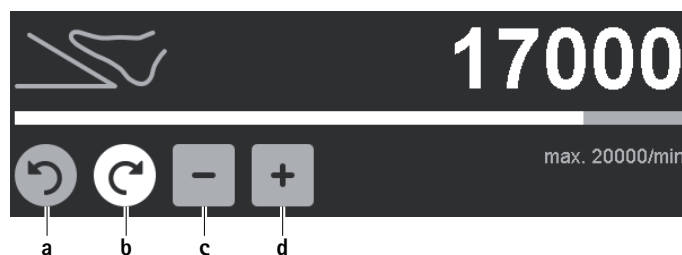

Fig. 6 Changing the maximum speed setting/rotational direction
- To change the rotational direction: Activate the inactive, gray rotational direction button for right rotation/left rotation **a/b**, see Fig. 6. The rotational direction is changed from right rotation to left rotation and vice versa.